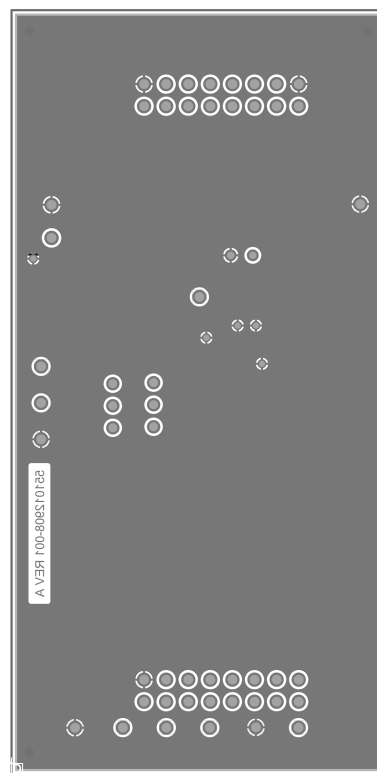

Figure 7. LP5522 Evaluation Board Layer 2
2. Bottom, GND plane (Figure 7)